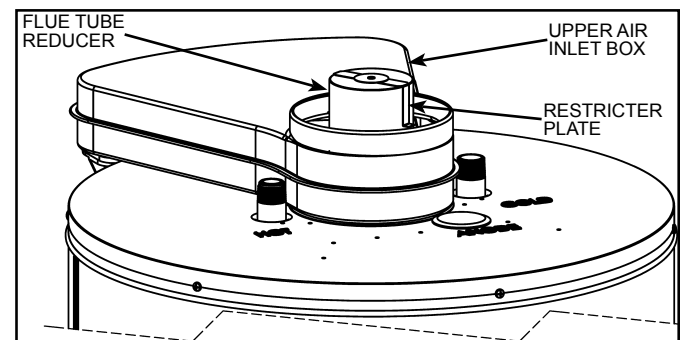
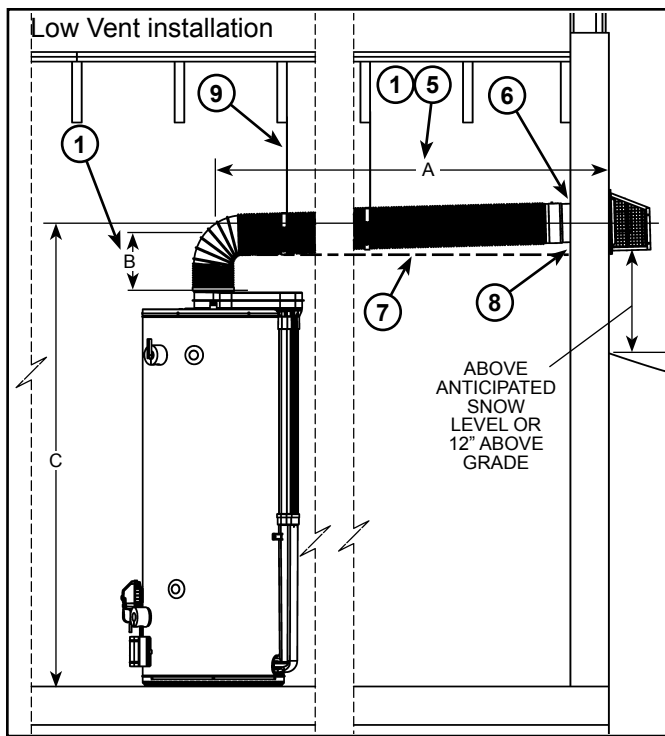
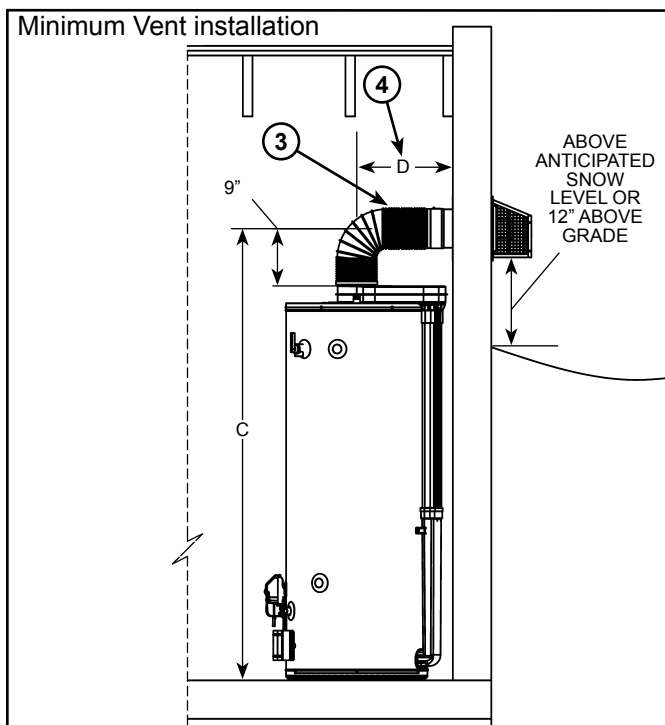
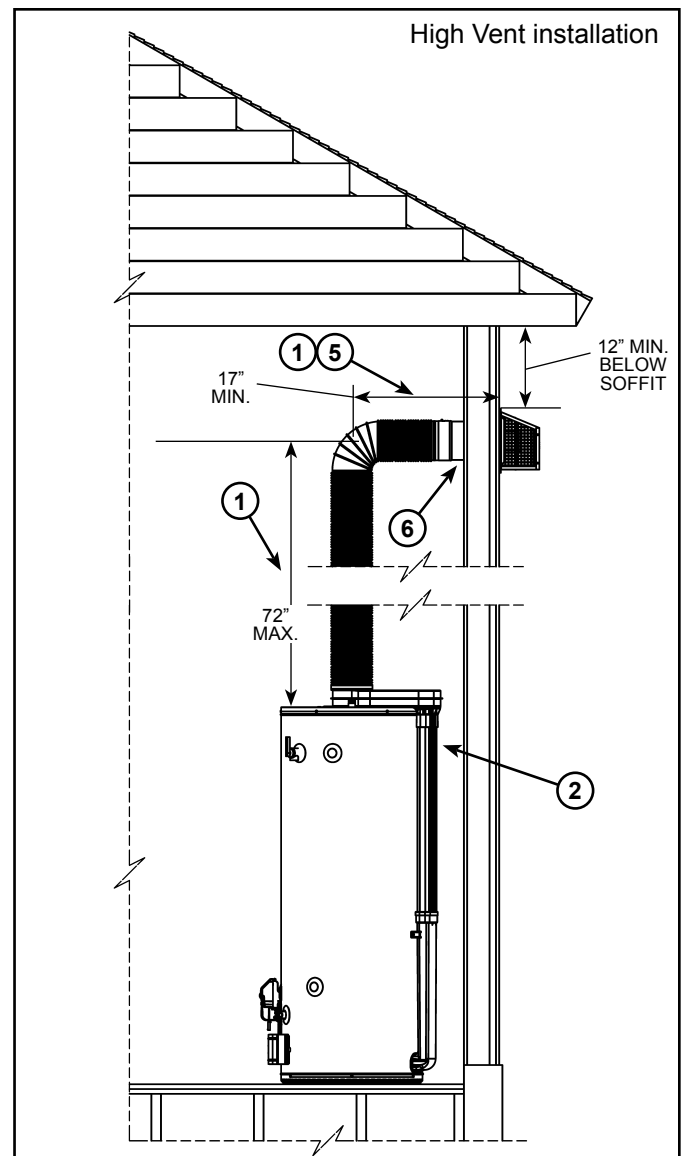

Figure 22
Figure 28
Figure 29
Figure 30
Figure 28 thru Figure 30 show various installation options.
* If the horizontal length of the venting is **less than 30"** the restrictor plate must be installed (see Figure 22, Figure 28 thru Figure 30).
The vent restricter plate (see Figure 22) is required for short horizontal runs on low vent installations (see Figure 29) and high vent installations (see Figure 30).
For short horizontal vent runs (see Figure 29) place the restricter plate over the flue tube reducer before connecting the inner corrugated tube to the flue tube reducer. DO NOT use the restricter plate if the horizontal run is greater than 30".
For high vertical runs use the restricter plate only when the vertical run of the venting above the heater is greater than 48" (see Figure 30).
NOTES: (applies to Figure 28 thru Figure 30)